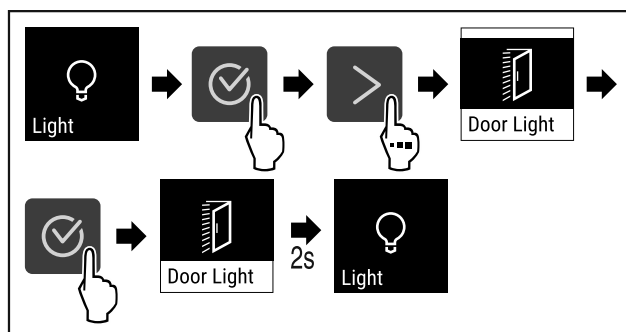

Fig. 69
- ▶ Carry out steps (see Fig. 69).
- ▶ Complete steps (see Fig. 69).